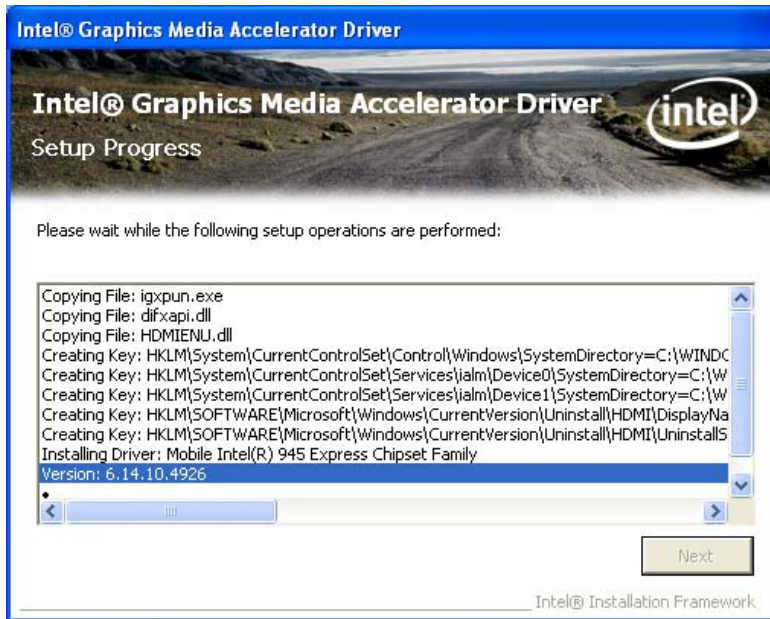

Figure 6-12: Graphics Driver Setup Operations
Step 14: Setup Operations are performed as shown in Figure 6-12.